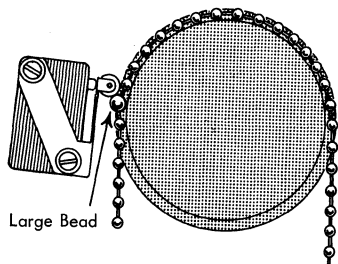

Figure 90. Auto Form-Feed Switch
11. Position the automatic forms-feeding switch so that when the platen is indexed by depressing the carriage return key, the actuating roller is just touching the bead chain pulley and a large bead. This large bead is to be in a counterclockwise position with respect to the roller (Figure 90). As a final check, when the platen is detented and the micro-switch is trans-